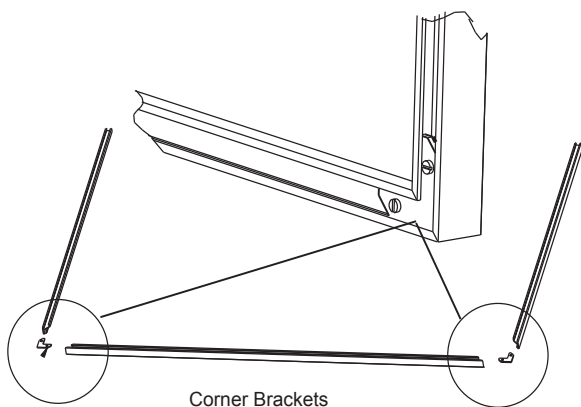

Figure 20.2
4. Using a standard flat screw driver tighten the corner brackets (**Figure 20.2**).